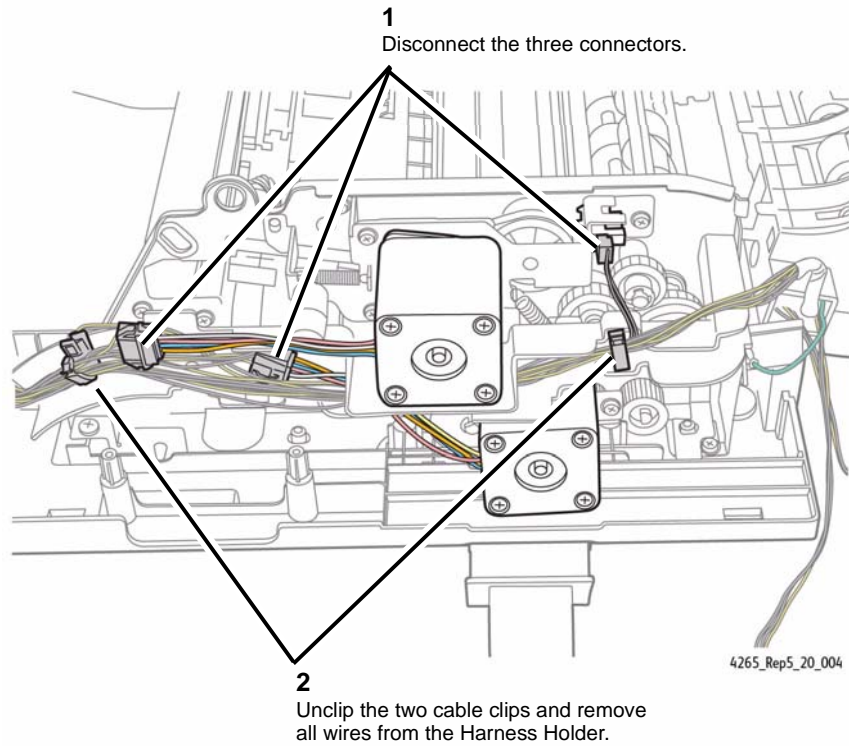

Figure 4 Preparing to Remove the Harness Holder
7. Prepare to remove the Harness Holder (Figure 4).